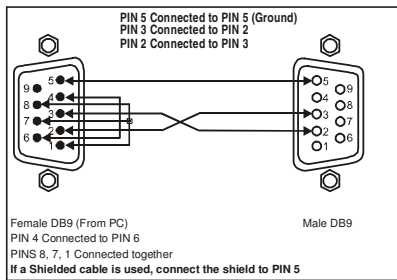

Figure 6: Connecting a PC without using a Null-modem Adapter
- Connect the RS-232 DB9 port on your PC to the RS-232 DB9 rear panel port on the **VP-23N**, as Figure 6 illustrates